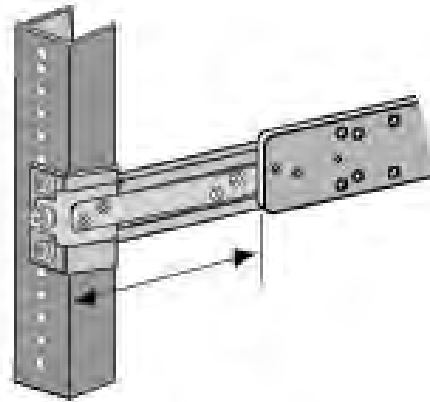

Figure 84. Verifying the Length of the Extension Bracket
5. Measure the distance from the front of the equipment rack to the front of the inner rail. Refer to Figure 84. This should approximately match the value you measured in “Measuring the Extension Bracket Lengths” on page 210.